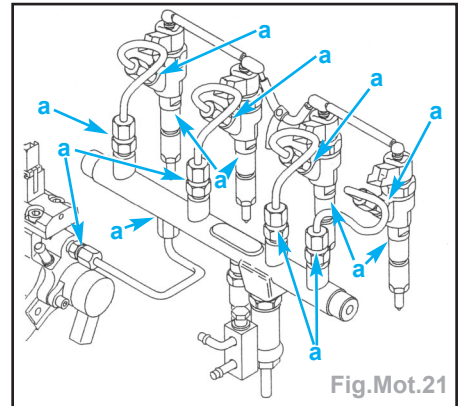

Fig.Mot.21
- canalisations haute pression carburant (Fig.Mot.21),